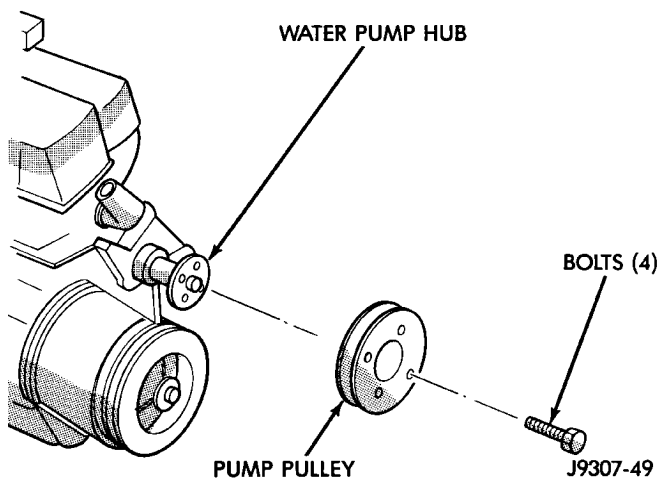
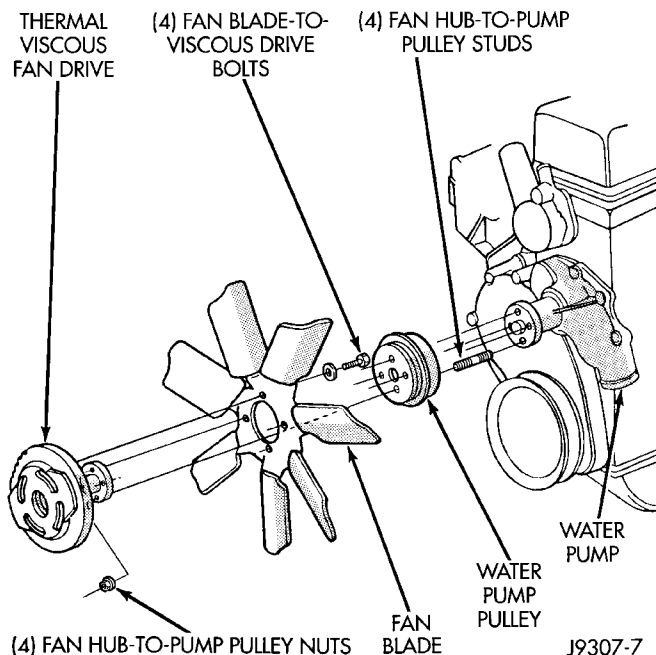

Fig. 24 Water Pump Pulley Bolts
Fig. 25 Fan Mounting Nuts
- (1) Disconnect negative battery cable at battery.
- (2) Drain the cooling system.
- (3) **Vehicles with 4.0L 6-cylinder engine equipped with A/C or heavy duty cooling system:**
- (4) Loosen (but do not remove at this time) the four water pump pulley-to-water pump hub mounting bolts (Fig. 24).
- (5) **Vehicles with 4.0L 6-cylinder engine without A/C or heavy duty cooling system:**
- (6) Loosen (but do not remove at this time) the four fan hub-to-water pump pulley mounting nuts (Fig. 25).